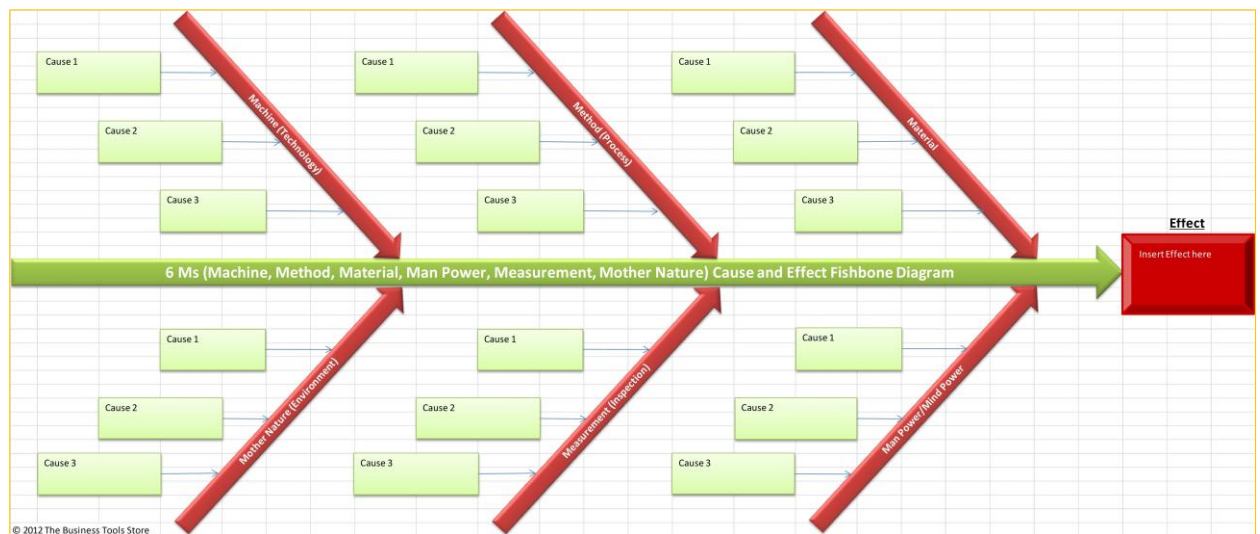

Figure 1 6Ms Cause and Effect Ishikawa Fishbone Diagram
- 6 Ms used in manufacturing sector (Figure 1)